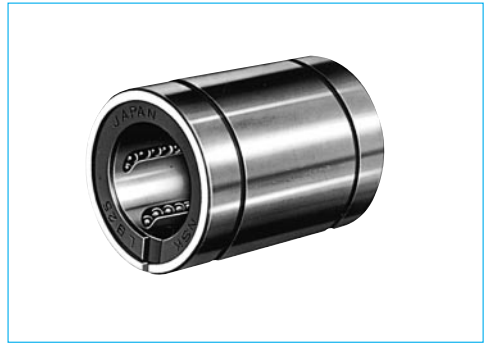

Fig. III-1-2 Adjustable Clearance type LB-T
(2) Adjustable clearance type LB-T (Fig. III-1-2)